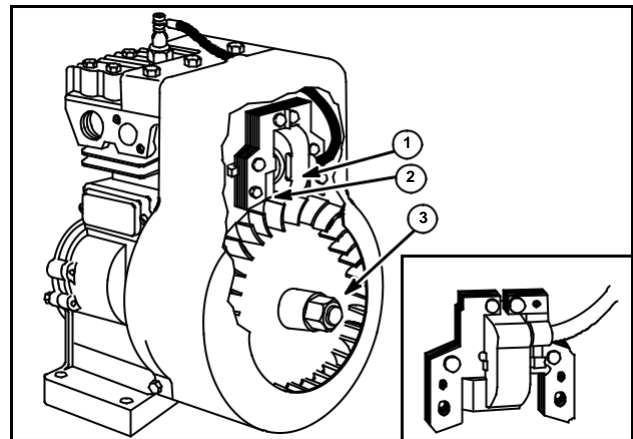

Fig. 1
1. Magnetron ignition, a self-contained transistor module (2), ignition armature, (1) and flywheel (3), Fig. 1. Inset: current style